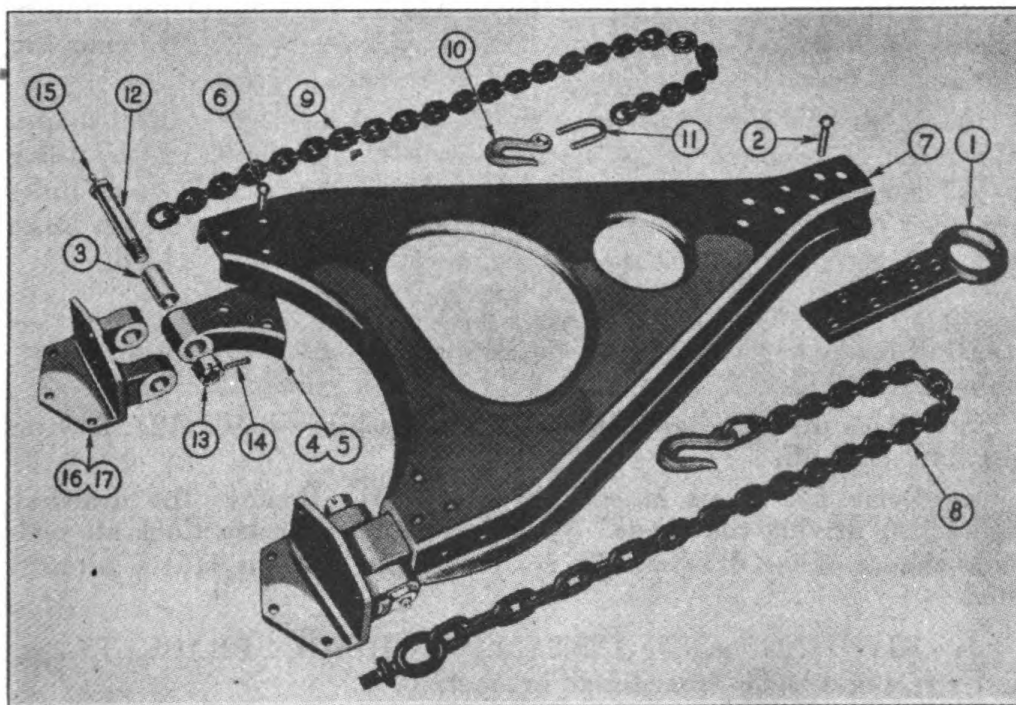
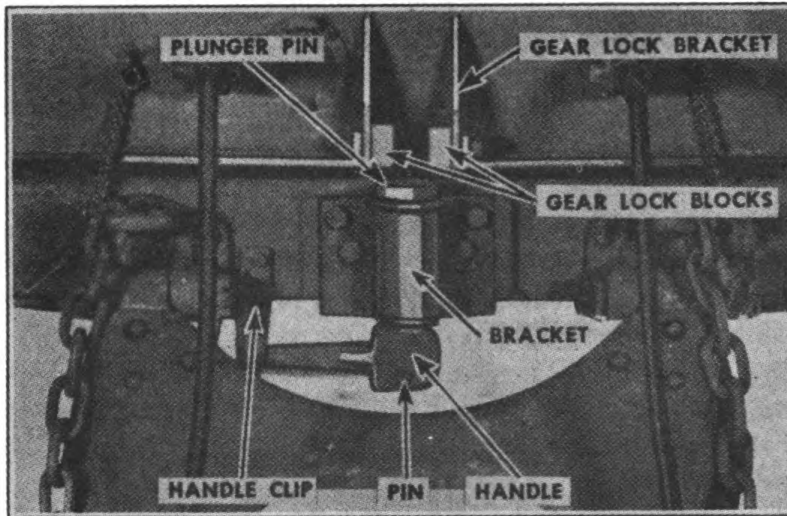

FIGURE 38. REBUSHING DRAWBAR
FIGURE 39. GEAR LOCK ASSEMBLY
1. **REBUSHING DRAWBAR** (Fig. 38).—*a.* New drawbar bushings (3) come from factory reamed to the proper diameter and care should be used when replacing the new bushing not to burr or mushroom their ends in installation.
2. **REPLACING EYE** (Fig. 38).—*a.* This operation can be performed with the drawbar attached to the gear frame.
4. INSTALLING DRAWBAR FRAME BRACKETS (Fig. 38).—*a.* Bolt frame brackets (16) to the frame crossmember using three $\frac{1}{2}$ " bolts in each bracket.
b. Place the drawbar in place and insert hinge bolts (12), leaving the nuts (13) off.
c. Drive five rivets in each bracket (16). Remove the drawbar and finish driving the rivets. By following these instructions all possible chance of the drawbar (7) not fitting the brackets (16) is eliminated.
5. RIVETING AND INSTALLING HINGE BRACKETS.—*a.* Cut rivets and welds from hinge brackets (4).
b. Bolt replacement hinge bracket (4-5 Right and Left) to draw bar (7), using three $\frac{7}{16}$ " bolts.
c. Install drawbar (7) to frame brackets (16).
e. Remove drawbar from frame brackets (16) and weld. By following the above instructions you eliminate all possible chance of the draw bar (7) not fitting frame brackets (16).
6. GEAR LOCK—*a. Removal* (Fig. 39).—(1) Remove the four bolts that hold gear lock to gear frame.
b. Handle replacement.—(1) Remove gear lock from trailer.